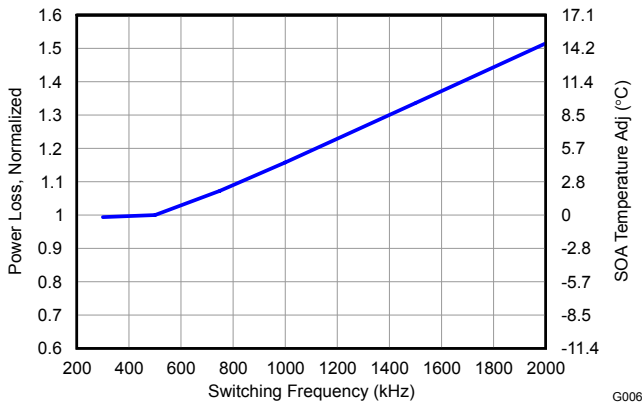

Figure 12. Normalized Power Loss vs Frequency
- Normalized Power Loss for switching frequency \approx 1.09 (Figure 12)
- SOA adjustment for switching frequency \approx 2.7°C (Figure 12)